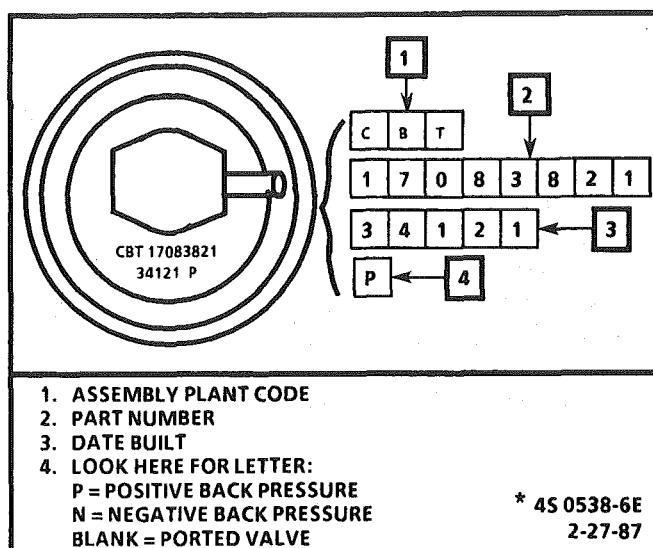

Figure C7-3 - EGR Valve Identification
- Negative backpressure EGR valves will have an "N" stamped on the top side of the valve after the part number (Figure C7-3).